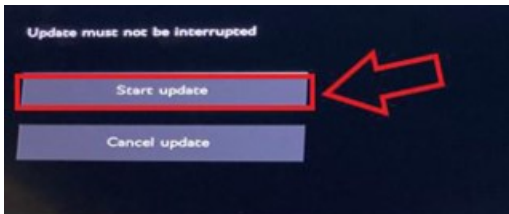

Figure 15
9. Select "Start update" (figure 15)